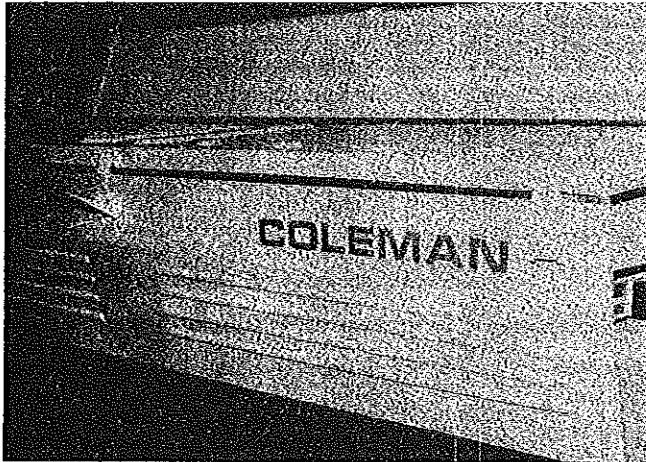

FIGURE 53
1. To access the trunk area unlock the top latches. See Figure 53.